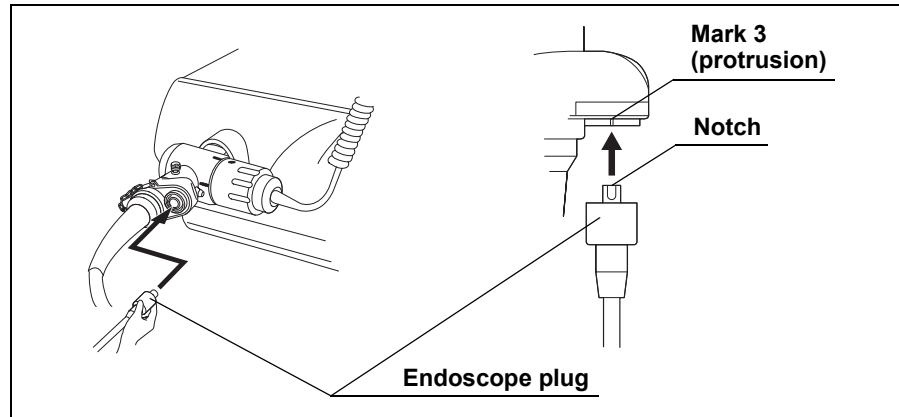

Figure 3.22
10. Align the notch on the endoscope plug of the magnification control cable with mark 3 on the zoom connector of the endoscope and push the endoscope plug into the zoom connector until it stops (for CF-H260AZL/I only, see Figure 3.22).